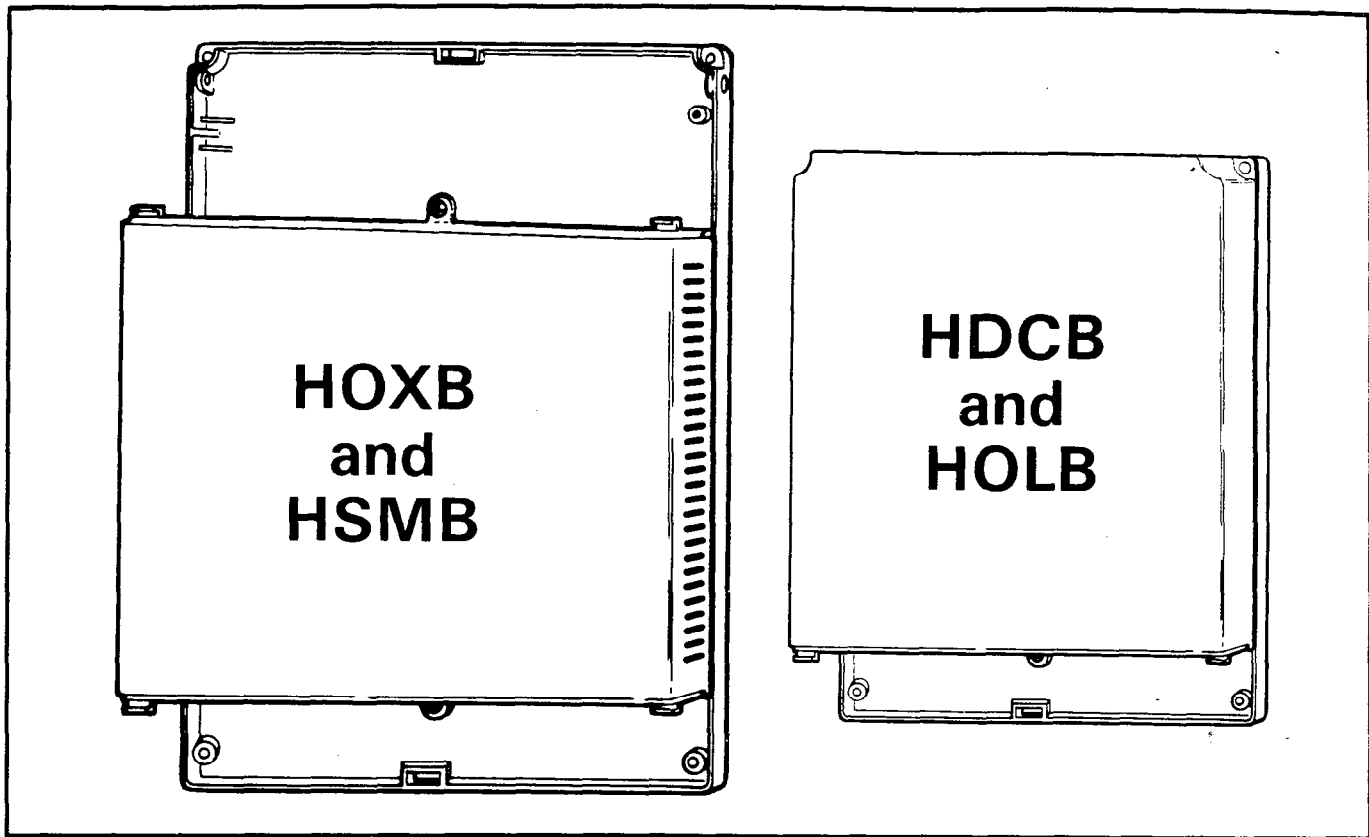

FIGURE 10—EXTERNAL MODULE WALL MOUNTING
05.02 Although different in size, all four external modules are mounted in the same manner. Refer to Figure 10 and perform the following steps: